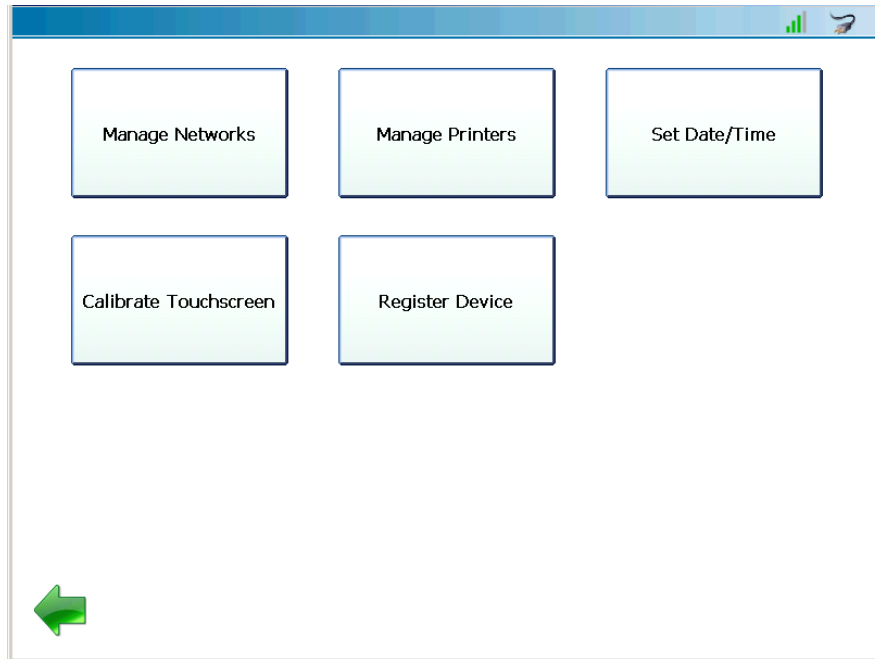

Figure 5.21 *Configure Device Menu*
You access the Manage Networks menu from the Configure Device Menu (Figure 5.21).
- 6 Touch the green **Back Arrow** at the bottom of the screen to return to the Configure Device menu (Figure 5.21).